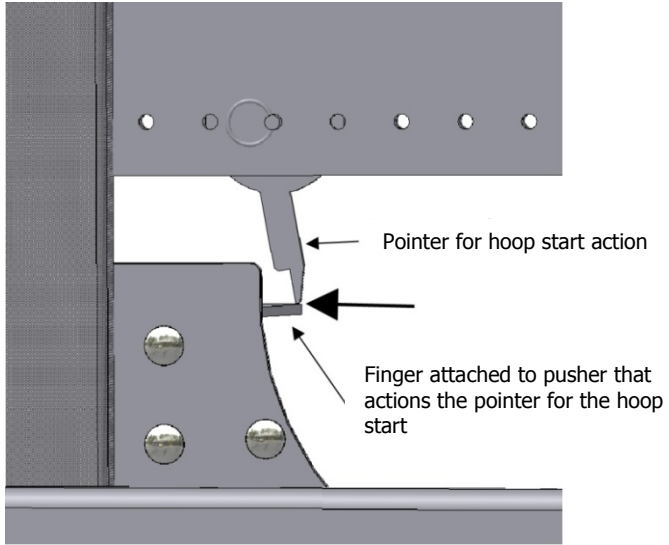

Figure 41 – Adjustment of the hoop trigger
4. Loosen the bolts on the finger that hold in place. Adjust the position so that it slightly touches the pointer. (Figure 41).